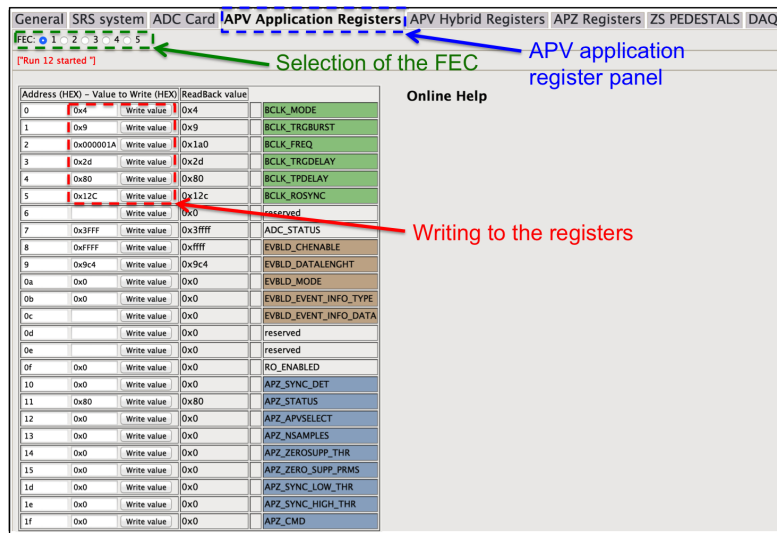

Figure 5.24: QC5 SCRIBE APV Application Register panel.
- 804 4. Open the APV Application Register window in SCRIBE (Fig. 5.24) and select
807 with the appropriate values indicated in Fig. 5.24. Then repeat the same